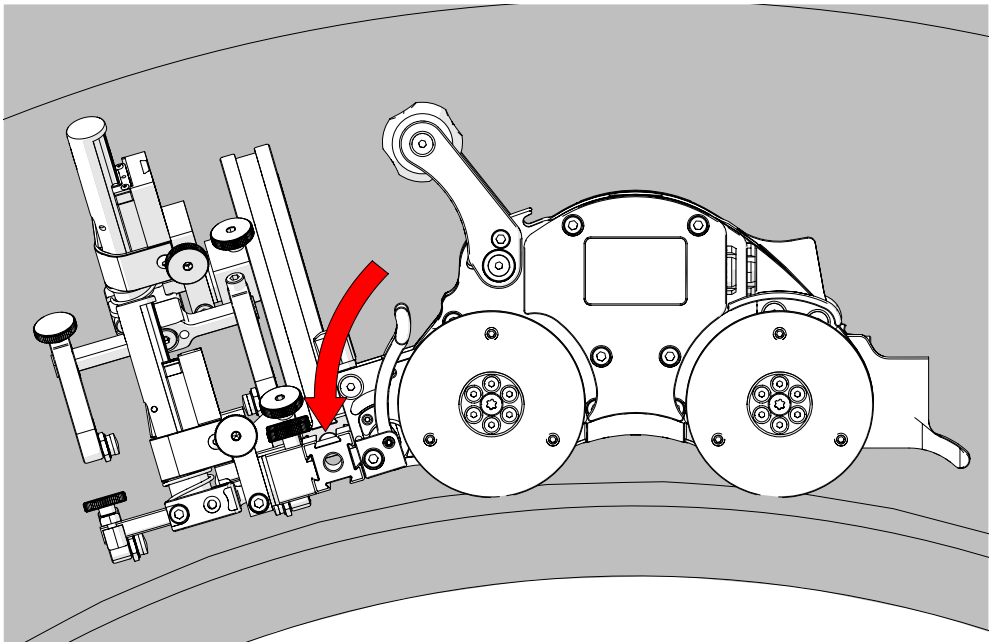

Fig. 157 - Align swivel mount with scan surface
3. Release the front swivel mount adjustment levers to align the swivel mount parallel to the scan surface (Fig. 157).